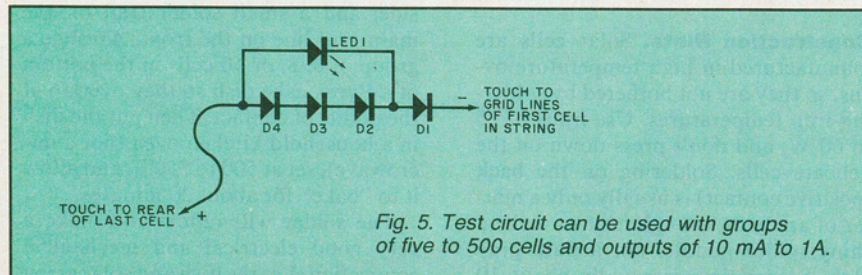

Fig. 5. Test circuit can be used with groups of five to 500 cells and outputs of 10 mA to 1A.
### PARTS LIST (Fig. 5)
**Testing Solar Arrays.** The test circuit shown in Fig. 5 can be used with groups of five to 500 cells, and current outputs of 10 mA to 1 A. LED1 will glow when any group of five or more cells are positioned 6" to 8" from a 100-W light bulb. The diodes bypass everything over about 2.1 V so LED1 is properly biased. The solar cell arrays are inherently short-circuit protected, so the only limiting factor is the ability of the diodes to pass current. For cell arrays with outputs up to 3 A, use 1N1056 or 1N1226 diodes, or similar.